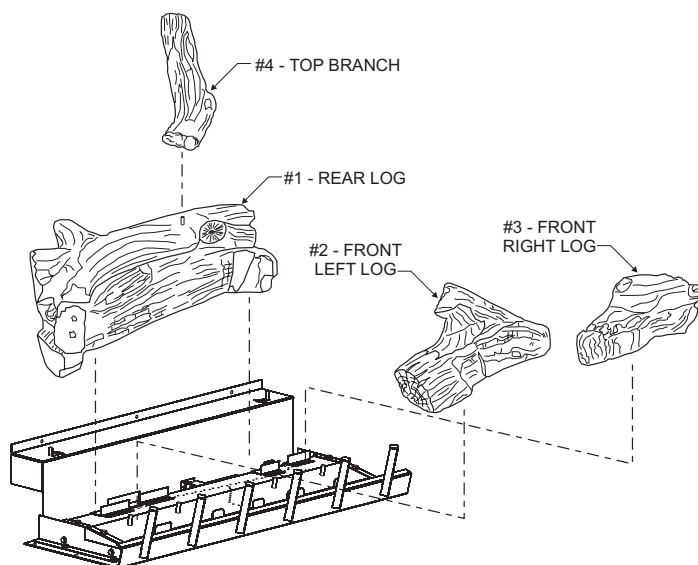
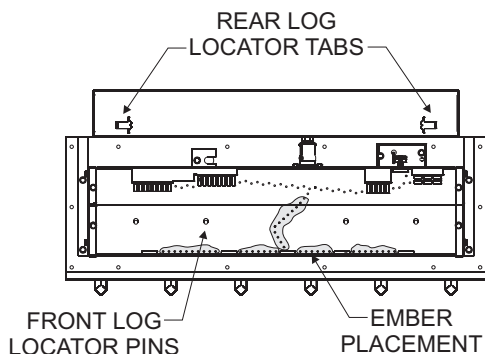

Figure 63
Figure 61
The positioning of logs is critical to safe and clean operation of this fireplace. Sooting and other problems may result if the logs are not properly and firmly positioned in the fireplace. Please refer to **Figure 61**, **Figure 62**, and **Figure 63** and corresponding WARNING, when completing the following log placement steps.
9. After all logs are properly positioned, place small "dime" size pieces of Rockwool lightly across the front round "blue flame" ports. Place the ember material (Rockwool pieces) side by side. Do not stack more than one layer of embers across the burner ports. **See Figure 61.**
Attention: Do not use Figure 62 or Figure 63 to order logs. Refer to parts view on page 63 and parts list on pages 64 and 65 to order logs and/or ember material for your appropriate fireplace model.